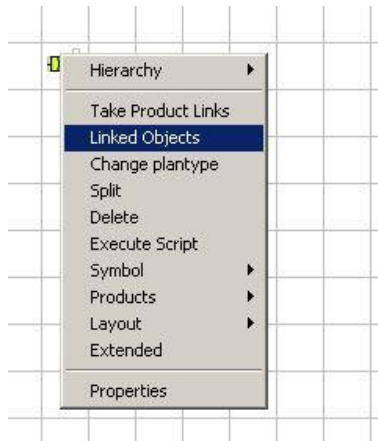

Figure 148: Display Links of a Resource
- 1) To start the menu item **Linked Objects**, select the resource and then click with the right mouse button. *Please refer to the Figure 148.*